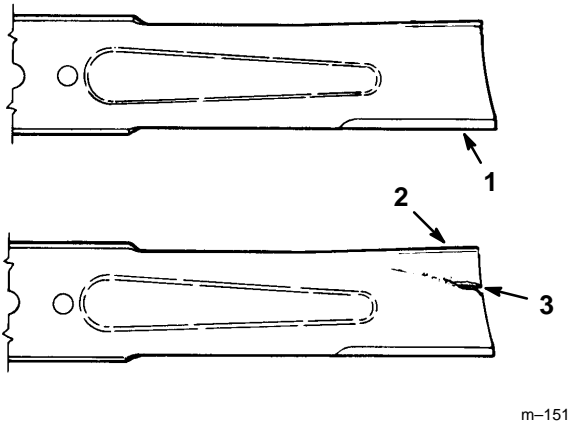

Figure 16
1. Inspect the cutting edges (Fig 16). If the edges are not sharp or have nicks, remove and sharpen the blades. Refer to Sharpening the Blades on page 33.
2. Inspect the blades, especially the curved area (Fig. 16). If you notice any damage, wear, or a slot forming in this area (item 3 in Fig. 16), immediately install a new blade.